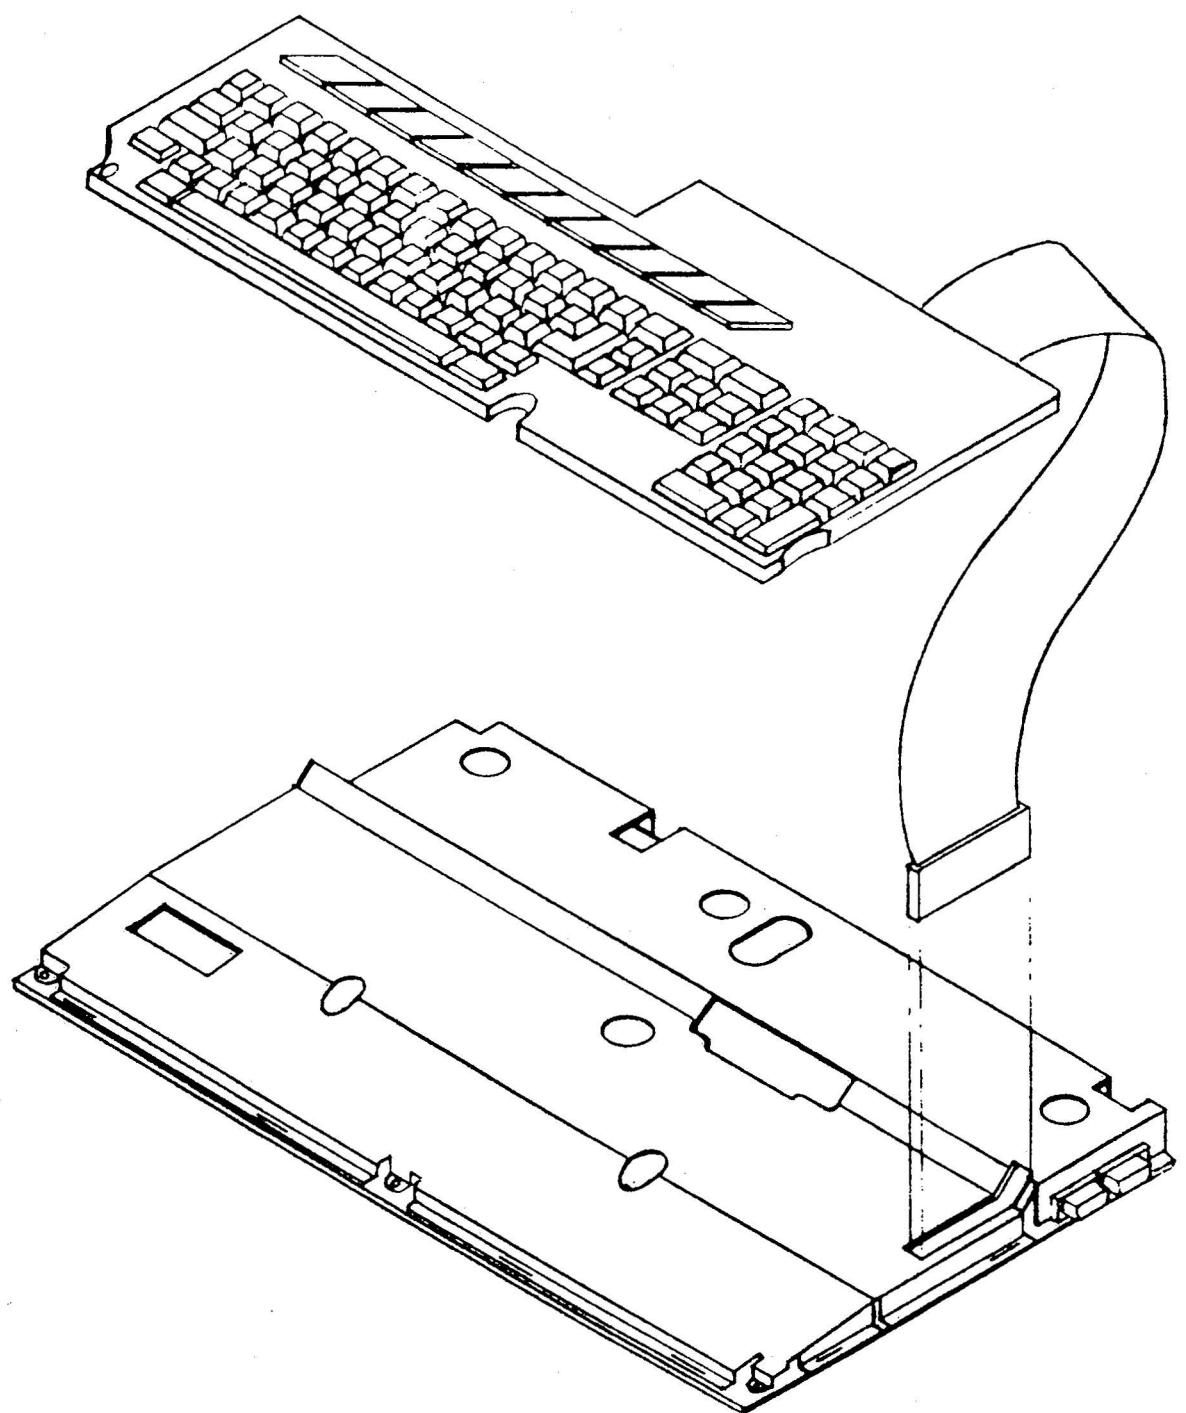

Figure 4.2
- 4) Remove Keyboard from Main Board and Shield Assembly by unplugging keyboard harness connector located in opening on right front of shield. (Fig 4.2)